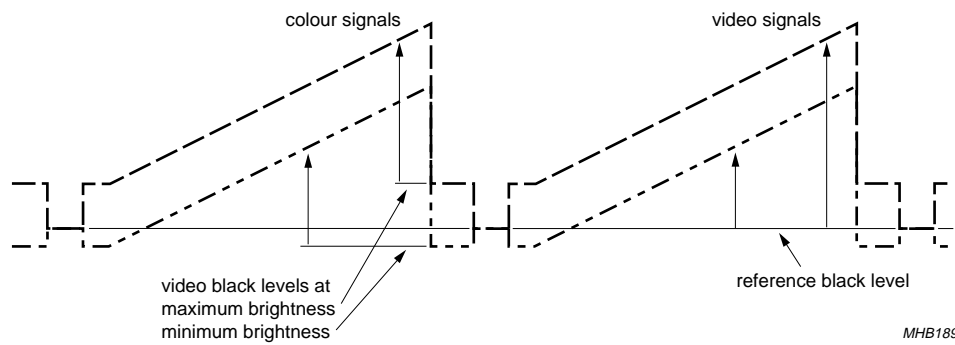

Fig.6 Definition of output signals.
3. Definition of output signals (see Fig.6):